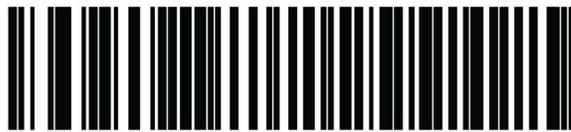

Figure C-22. Barcode 1: \*HID Keyboard Emulation
3. Configure the barcode scanner by scanning the barcodes shown in Figure C-22 through Figure C-26, in order:
If any barcodes do not scan correctly, unplug the barcode scanner from the computer and repeat the configuration procedure starting with Step 2 in Section C.5.1 or Step 2 in Section C.5.2 and rescan the barcodes shown in Figure C-22 through Figure C-26.